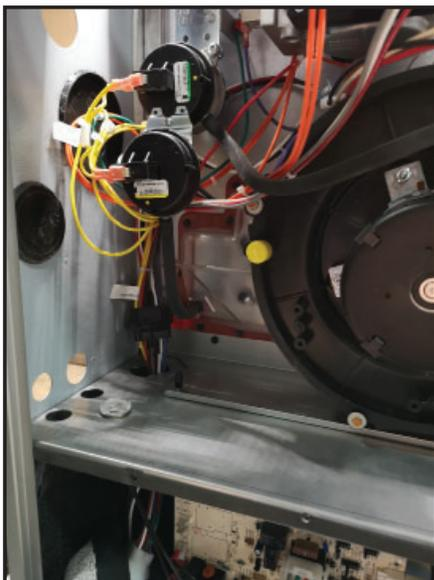

Fig. 5: Wire harness sealing grommet
11. The wire harness previously disconnected from the control board can now be pulled through into the upper vestibule of the furnace, by making a quarter turn on the its sealing grommet and carefully pulling the wires/molex connectors through the opening **(Fig. 5)**.